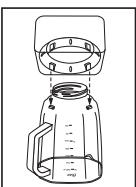

Fig. 15
- a. For models with Boroclass® glass jar only, turn jar upside down and place the collar on the small/bottom opening of the jar ensuring the notches in the collar fit into the four tabs on the jar (Fig. 15).